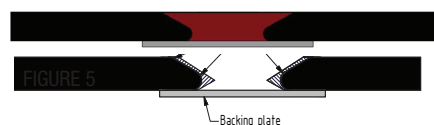

FIGURE 5
5. **Finish the surface** – Use the scraper to smooth out and level the material to the repair area (as per figure 5) and feather out the edges. No need to buff once completed.